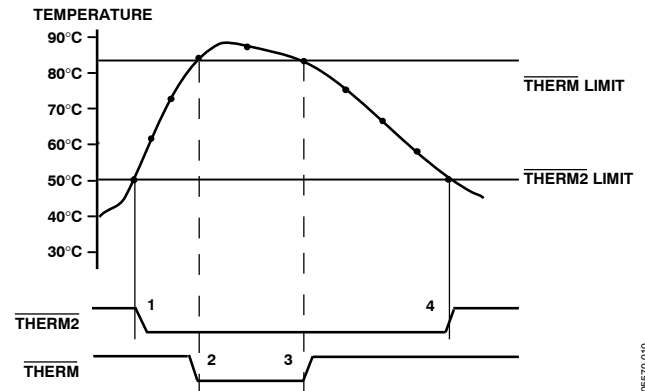

Figure 21. Operation of the $\overline{\text{THERM}}$ and $\overline{\text{THERM2}}$ Interrupts
Pin 13 on the ADT7483A can be configured as either an $\overline{\text{ALERT}}$ output or as an additional THERM output. THERM2 will assert low when the temperature exceeds the programmed local and/or remote high temperature limits. It is reset in the same manner as THERM, and it is not maskable. The programmed hysteresis value also applies to THERM2. Figure 21 shows how THERM and THERM2 might operate together to implement two methods of cooling the system. In this example, the THERM2 limits are set lower than the THERM limits. The THERM2 output can be used to turn on a fan. If the temperature continues to rise and exceeds the THERM limits, the $\overline{\text{THERM}}$ output can provide additional cooling by throttling the CPU.
- The $\overline{\text{THERM}}$ output deasserts (goes high) when the temperature falls to THERM limit minus hysteresis. In Figure 21, there is no hysteresis value shown.